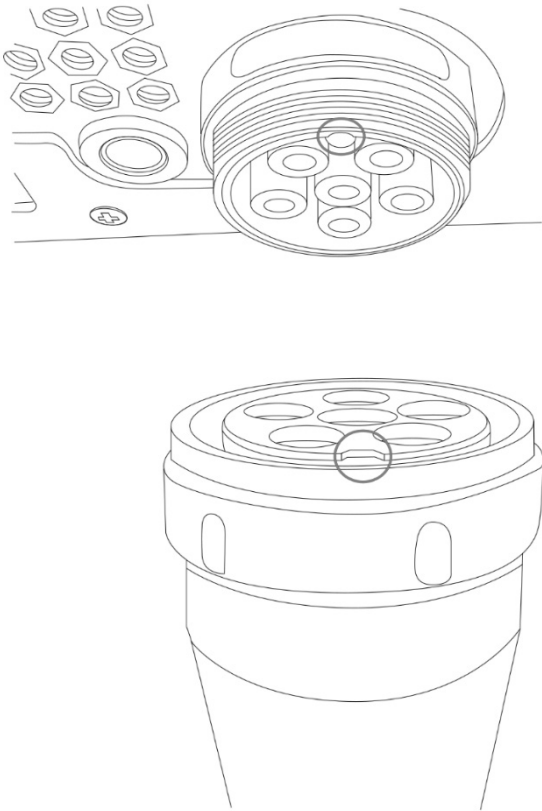

Figure 2: Alignment key on Bulkhead Connector
1. Attach Patient Valve (F) to VitaloROV/ROV+ device by screwing Patient Valve Bulkhead Connector (G) onto its component on back of device. The Bulkhead Connector alignment key should be in correct alignment to the connector on back of device (Figure 2).